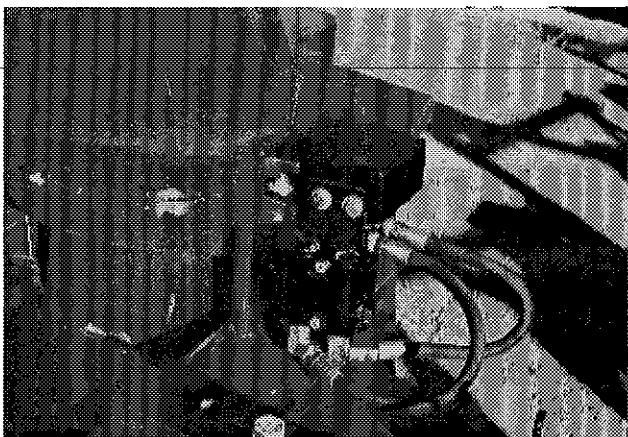

Figure 24
- 5) Install guard and cushion valve support. Then install cushion valve and hydraulic hoses as per Fig. 24.